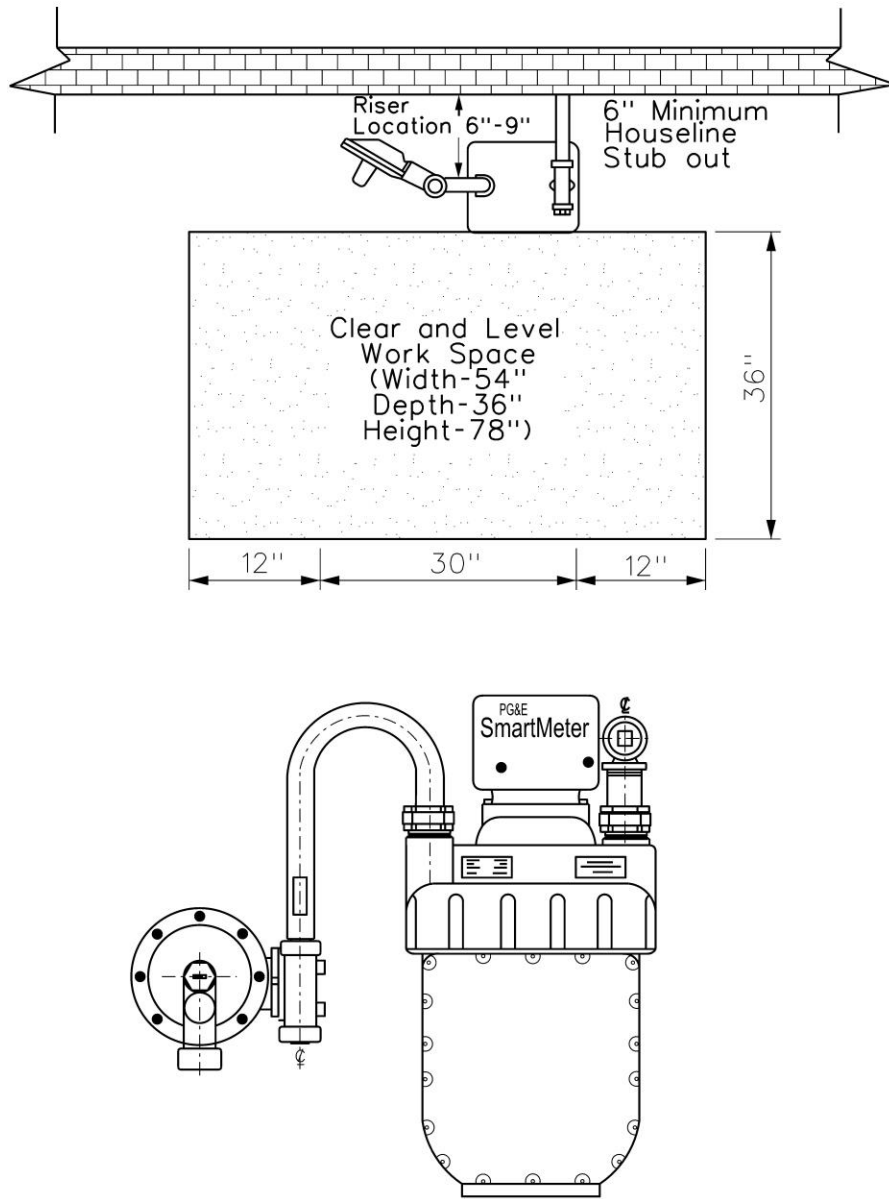

Figure 2. Typical Gas Meter Connection for 400 to 1000 Class Meter
(4) Gas Meter Working Space
- (a) Gas meter locations must be 78 inches high and allow for a minimum clear and level working space of 3 feet in front of the meter; width depends on meter size and the number of meters. Grade slope should be less than 2%. See Figure 1 and Figure 2. For a large meter set or multi-meter manifold, this working space extends 12 inches beyond the edge of the Company meter set equipment.
- (c) Figure 2 represents a typical gas meter kit with 351 through 1400 scfh at 7 inches WC or 601 through 2400 scfh at 2 psig. Do not use reverse sets for 400 through 600 class meters (i.e., 400, 425, and 630). The houseline must be to the right of the gas service riser.
- (1) An alcove's width can vary depending on the meter set. The height of the alcove is typically 8 feet; the depth must not exceed 36 inches. PG&E provides final dimensions after confirming the meter size and the number of meters.
- (2) A manifold located in an alcove may require a custom design depending on the configuration.
- (a) For single-diaphragm meters, applicants must use the area dimensions shaded in Figure 1 and Figure 2.
(1) Isolation from Living Spaces